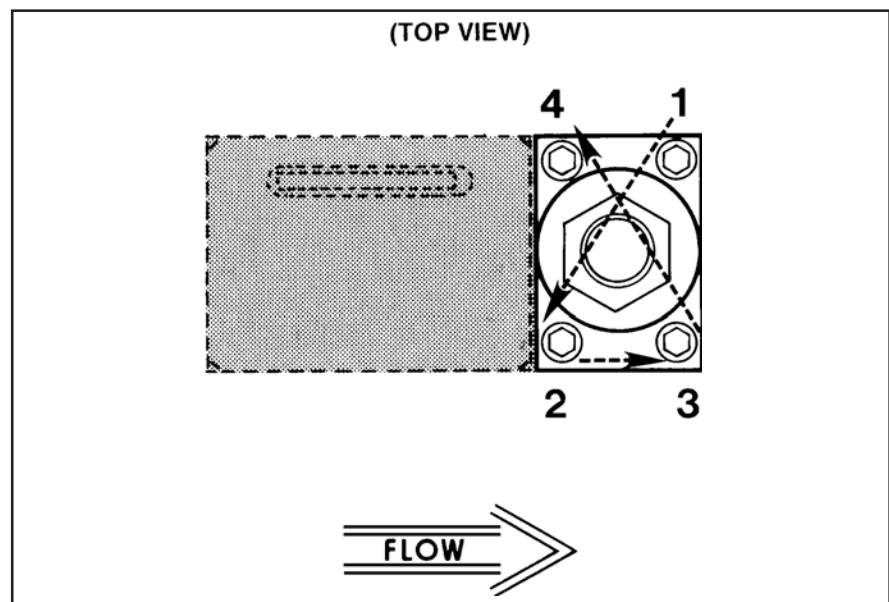

Figure 4-1 Torque Sequence for the Valve Retainer Plate
3. Press the lubricated sensor O-rings (17) into the flow controller body (14). Install the sensor assembly and secure with two screws (18) and washers (19) tightened to 15 in/lbs.
4. Install the orifice (12) and its O-ring (13), using a 3/8 nut driver. Insure that the orifice is fully seated but do not over-tighten.
5. Insert the valve preload spacers (10)(NC Valve) or (33)(NO Valve), if used, into the valve cavity in the flow controller body (14). Use care to preserve the correct order.
6. Place the spacers (9) and spring (8) on the valve seat (11) in the same order as noted in step 8 of the disassembly. Screw the valve seat (11) into the plunger assembly (7)(NC Valve) or (35,31,32)(NO Valve). Tighten the assembly until there is no looseness, but do not over-tighten.
7. Install the valve plunger assembly (7, 8, 9 and 11)(NC Valve) or (35,31,32,8,9,11)(NO Valve) on the preload spacers (10). Install air gap spacers (10), if used on top of the valve spring.
8. Install the valve stem assembly (6), secure with the valve retaining plate (4) and four hex socket screws (3). When installing the screws they should first make light contact with the plate, which should be checked to insure that it makes full contact around the stem assembly. Torque
- the screws securing the valve retaining plate in diagonal pattern (Refer to Figure 4-1) to 17 in/lbs.
9. Install the coil assembly (2) over the valve stem assembly (6)(NC Valve) or (34)(NO Valve) install extension spacer nut (3)(NO Valve) and secure with jam nut (1).
10. Install the printed circuit (PC) Board (15), secure with the bracket (24) and two screws. Plug the connector from the sensor assembly onto the PC Board. The flow arrow on the connector should be pointing toward the valve assembly.
11. Install the electronics cover (23) on the controller, secure with three screws (20). Plug the connector from the valve coil into the PC Board through the hole in the electronics cover.